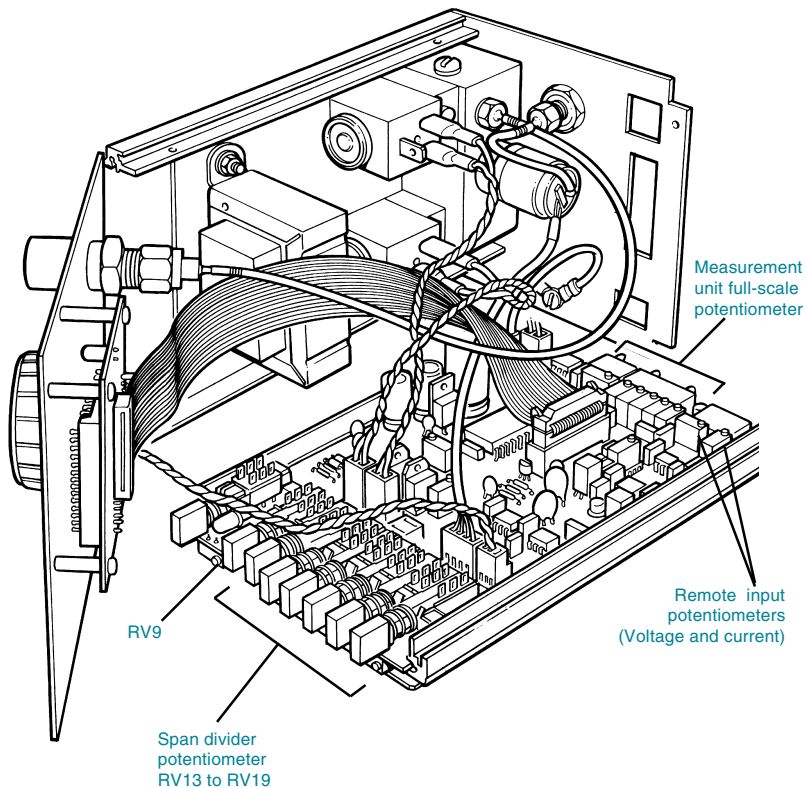

Figure 4-1 Access for Adjustments
Dismantling (Figure 4-1)
4.4 Re-assembly (Figure 4-1)